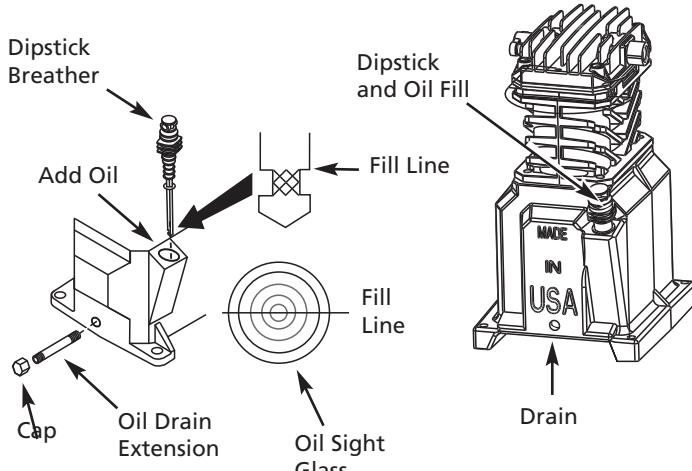

Figure 2
Some models include an oil drain extension and cap (found with the owner's manual). Install the oil drain extension and cap **before adding oil to the pump**. To avoid oil leaks, it is highly recommended to apply PTFE thread sealant tape or thread sealant to the threads on each end of the oil drain extension. Screw the cap onto one end of the extension. Remove the oil drain plug from the base of the pump and install the oil drain extension (See Figure 2).
**NOTE:** If your model is equipped with an oil sight glass, add oil to the center (See Figure 2).
**START-UP (SEE FIGURE 2)**